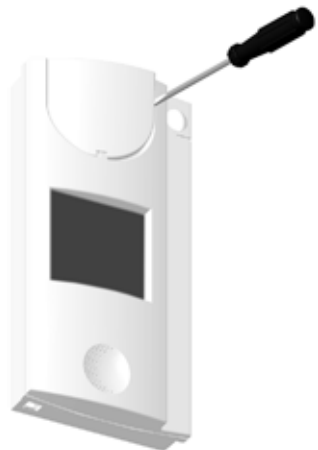

Fig 2.
2. Unpack the unit and remove the large button paddle by prising it off with a small flat headed screw driver inserted between the button and the case at the lower right hand side (fig2). This will reveal the screw securing the cover.